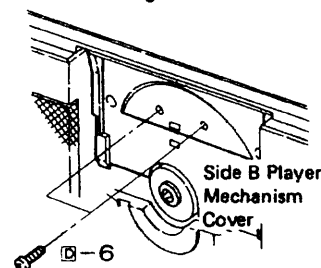

Figure 5-2
6. Remove two screws at the player mechanism side B cover, and take the cover off. See Fig. 5-2.